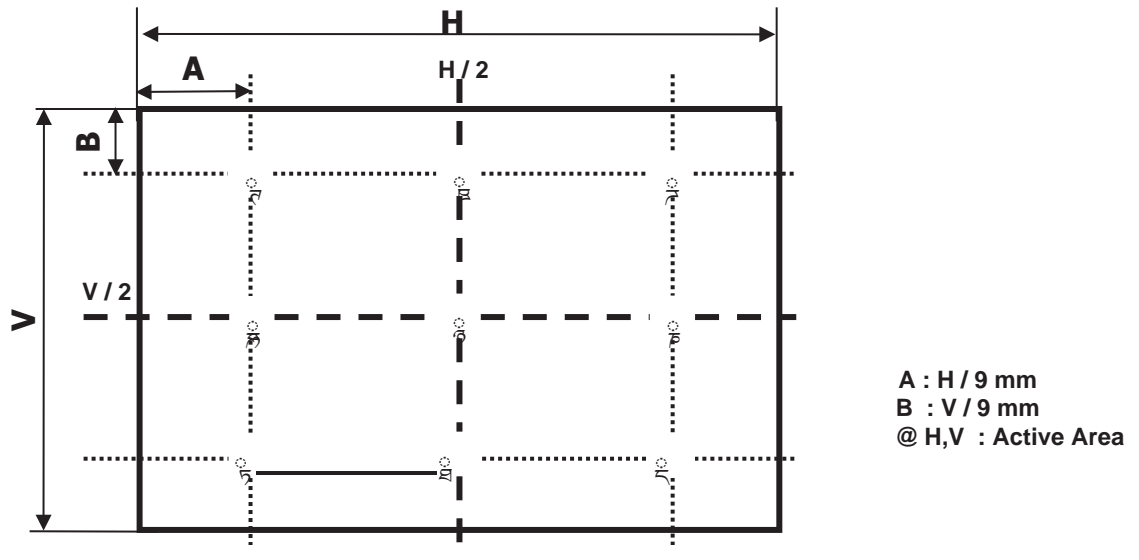

FIG. 2 9 Points for Luminance Measure
2. Optical Characteristics is determined after the unit has been 'ON' and 1 Hour after lighting the backlight in a dark environment at 25 ±2°C. Surface luminance is the luminance value at center 1-point across the LCD surface 50cm from the surface with all pixels displaying white. For more information see the FIG. 2
For more information, see the FIG. 2.